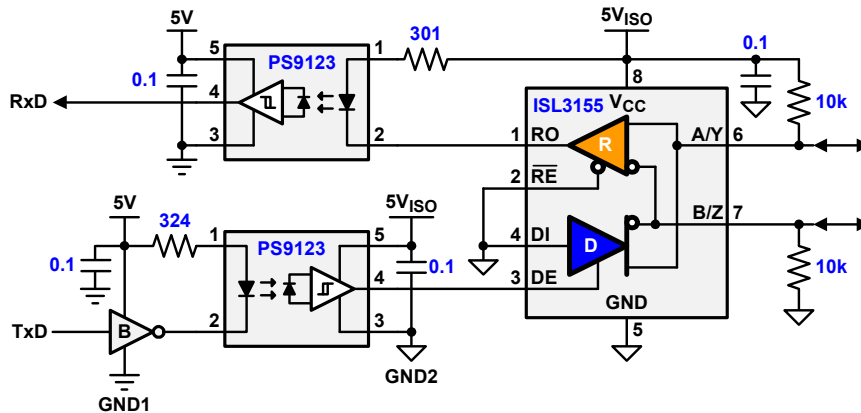

Figure 11. 3.75kV Isolated RS-485 Interface using Dominant/Recessive Mode
- Figure 11. 3.75kV Isolated RS-485 Interface using Dominant/Recessive Mode 6
Figure 11 shows the low-cost design of an isolated interface using PS9123 optocouplers with push-pull outputs, thus requiring no collector/load resistors. To further reduce component count, both LED drive circuits use only single current setting resistors, yet still provide a high common-mode rejection of 15kV/µs minimum. The PS9123 has maximum prop-delays of 60ns and a maximum PWD of 30ns, thus easily supporting data rates up to 1Mbps.